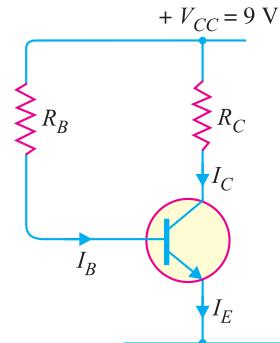

Fig. 9.49
3. Fig. 9.49 shows biasing by base resistor method. If it is required to set the operating point at 1mA, 6 V, find the values of  $R_C$  and  $R_B$ . Given  $\beta = 150$ ,  $V_{BE} = 0.3\text{ V}$ .      [  $R_C = 3\text{ k}\Omega$ ,  $R_B = 0.3\text{ M}\Omega$  ]